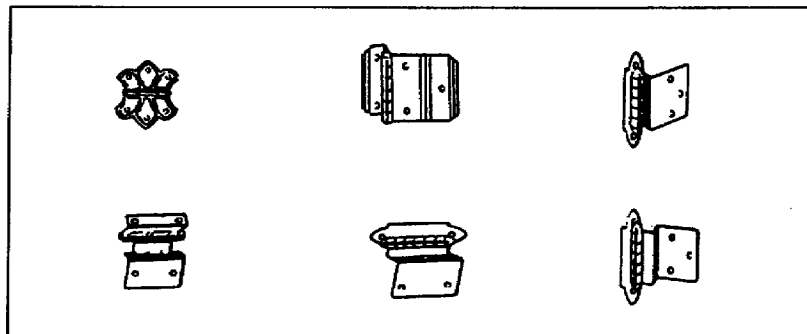

Figure 1-55. Cabinet hinges
d. Cabinet Hinges. Hinges come in many styles and finishes for every type of cabinet. Either full-mortise, full-surface, or half-surface hinges are used for cabinet work. A few of the designs of cabinet hinges are shown in Figure 1-55.